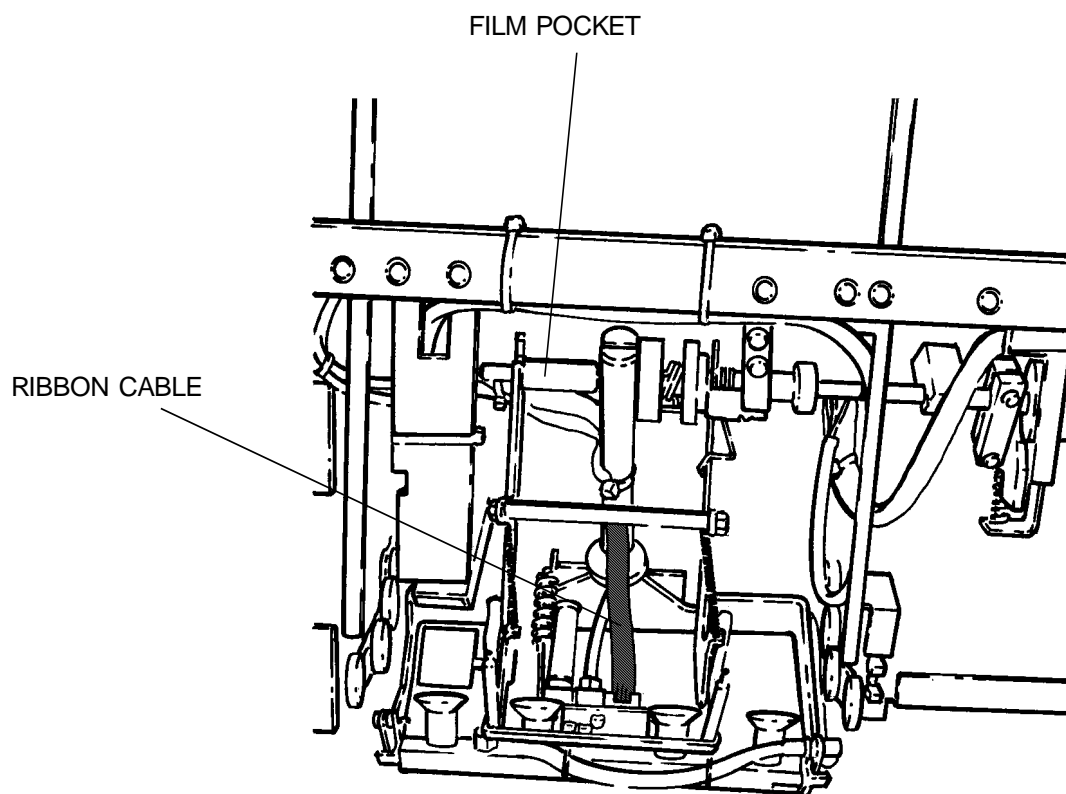

figure 1
- 4.** Remove and discard RIBBON CABLE from FILM POCKET. See figure 1.